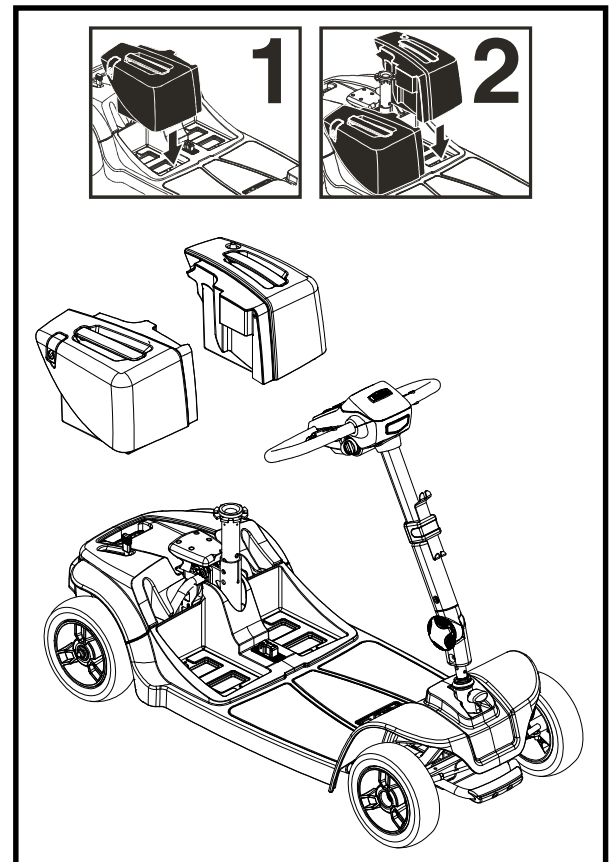

Figure 23. Battery Box Installation of models 66 and 67
12. Reinstall the battery packs onto the scooter and engage the battery pack locks. Always reinstall the right side battery pack first. See figure 23.